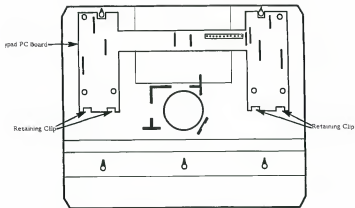

Figure 7-6. Top Cover (Underside)
- To remove the Keypad PC board (See Figure 7-6):
- Position the board as shown in Figure 7-6. Be sure that PC board is under the notches at the back of the top cover.